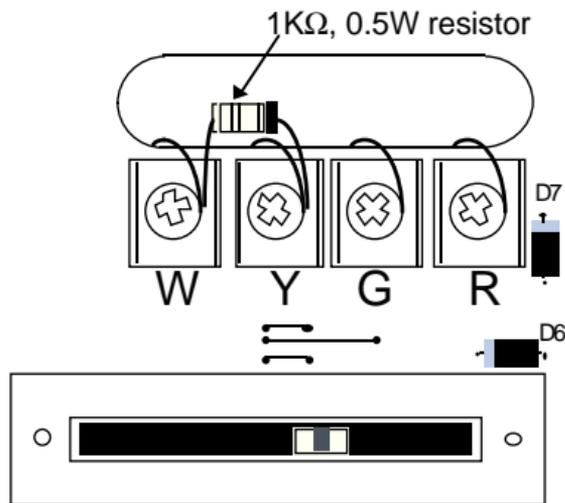

Figure 8. Install resistor at thermostat (method 1)
2. Install the resistor between the W and Y terminals on the thermostat (see fig. 8). **Do not allow the resistor to come into contact with any other thermostat components.**